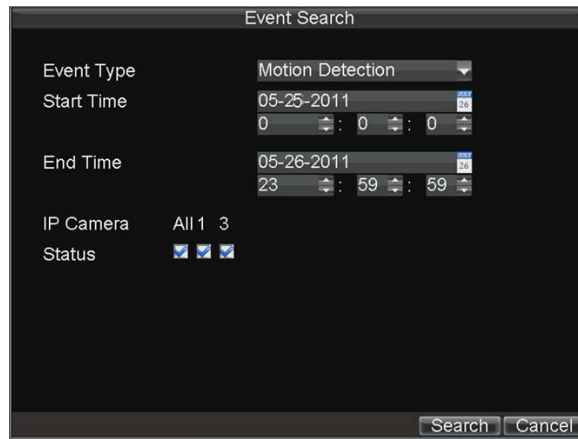

Figure6. Event Search Menu
1. Enter the Event Search menu (shown in Figure 6) by clicking Menu > Event Search